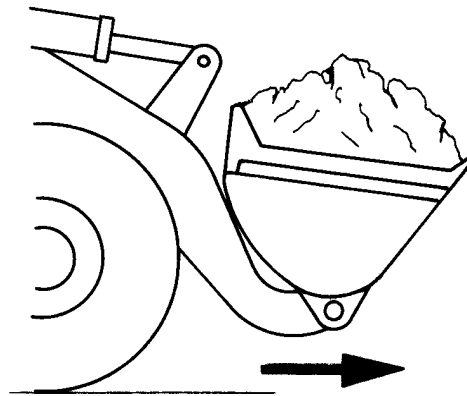

Fig. 4.47. Transporting full Bucket
6. Transport filled bucket in the roll back position close to the ground (Fig. 4.47). If it is necessary to carry the bucket raised in transit, the operator should use increased caution. Perform all steering and shifting as smoothly as possible. Use the lower transmission gear range for bucket loading and the transportation of loads. The higher gear range may be used for making return trips to the loading sites.